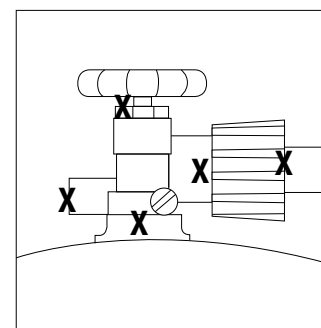

Figure 5
8. If igniter does not light burner, use a lit match secured with the lighting rod (included with grill) to light burners. Access the burners through the cooking grid and heat plates. Position lit match near side of burner (Figure 5).